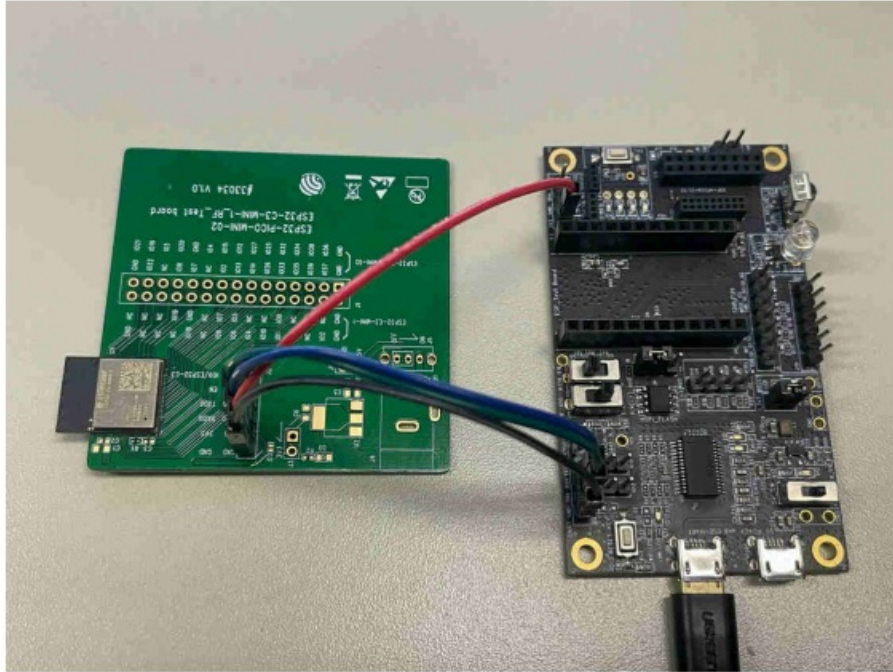

Figure 2: Hardware Connection
1. Solder the ESP32-C6-MINI-1 module to the RF testing board as shown in Figure 2.